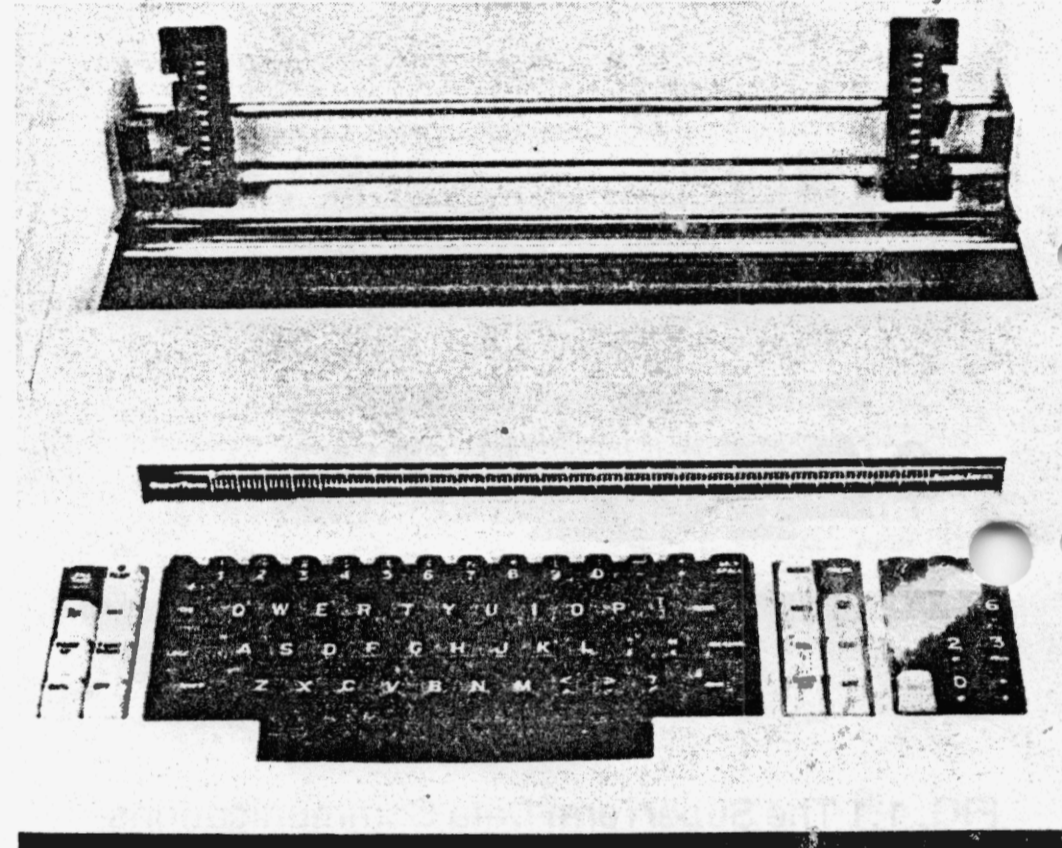

FIGURE 2-1
1. Flip the [POWER] switch, located just under the right hand side of the keyboard, to the "ON" position.* (See FIG. 2.1.)
3. To power off, merely flip the [POWER] switch to the "OFF" position. (See FIG. 2.1.).
1. Insure that the [LOCAL] switch, (FIG. 2.1.) is not depressed ("OFF"). If the switch is depressed, depress the switch again and it will return to the up ("OFF") position and thereby place the terminal "ON-LINE".
1. Depress the [LOCAL] switch, FIG. 2.1) until it stays in the detent position ("ON"). The [READY] indicator should illuminate.